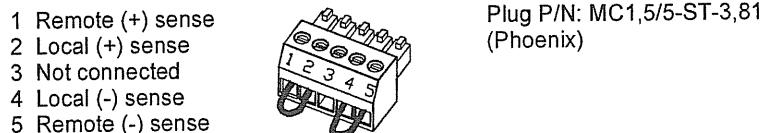

Fig.3-4: J2 Sense connector default connection
- J2 Sense connector: Configured to Local Sense as shown in Fig. 3-4: